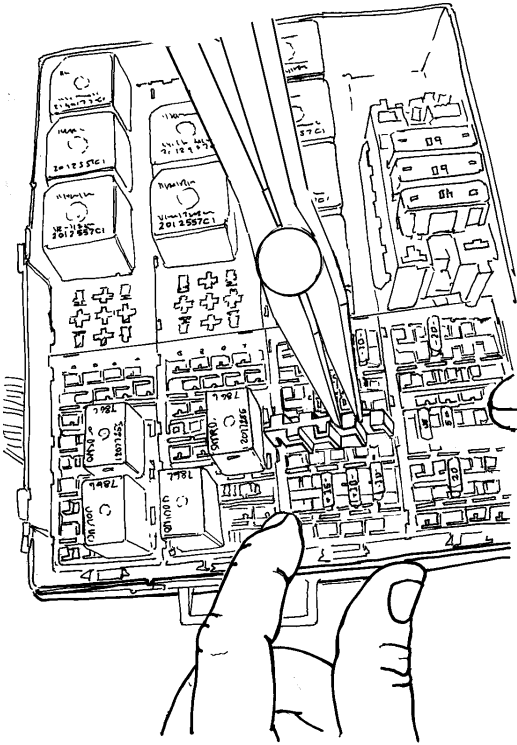

Figure 10 Remove Retainer
12. Remove the retainer by prying up on one side, and then the other (Figure 10). Remove any other fuses holding retainer in place.